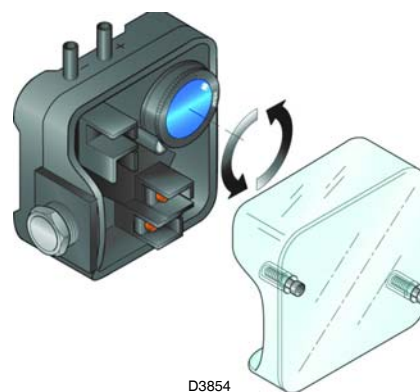

Fig. 35
- Adjust the air pressure switch (Fig. 35) to the start of the scale.
Adjust the air pressure switch (Fig. 35) after having performed all other burner adjustments with the air pressure switch set to the min. of the scale.